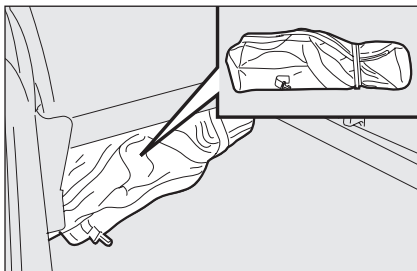

fig. 3
- take out the tool bag **fig. 3** set under the driver's seat and take it near the wheel to be changed;